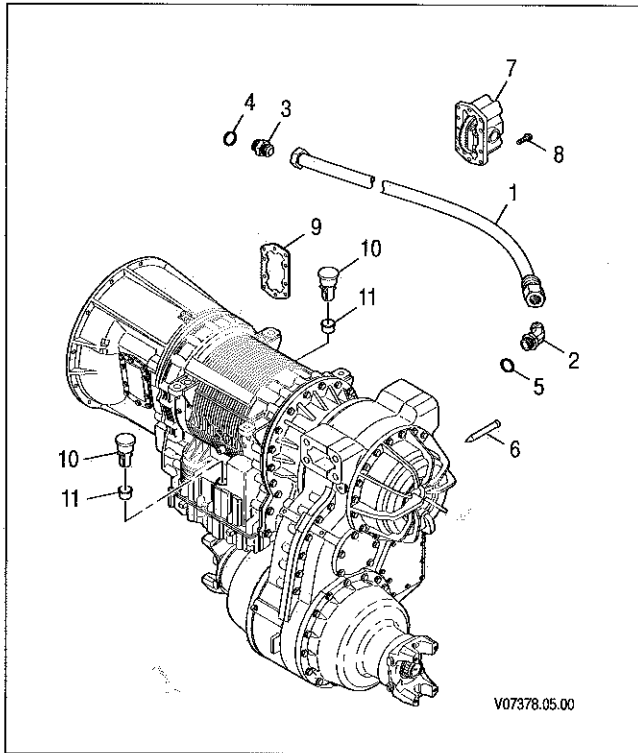

Figure 6-21. 3700 SP and MD 3070PT—Scavenge Pump Installation
If you have a 3700 SP or MD 3070PT model transmission, complete Steps (13) and (14). Refer to Figure 6-21.